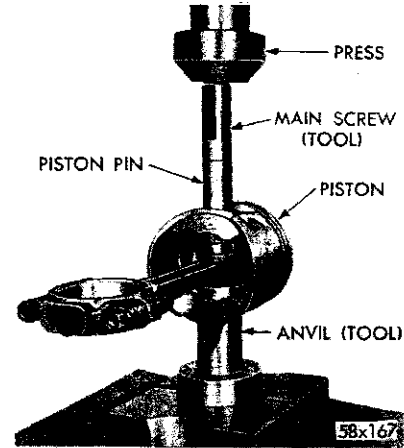

Fig. 42—Installing the Piston Pin in Connecting Rod
(8) Install the nut on puller screw to hold the assembly together. Place the assembly on a press, as shown in Figure 42.
(9) Press in the piston pin until the piston pin "bottoms" on the pilot properly, positioning the pin in